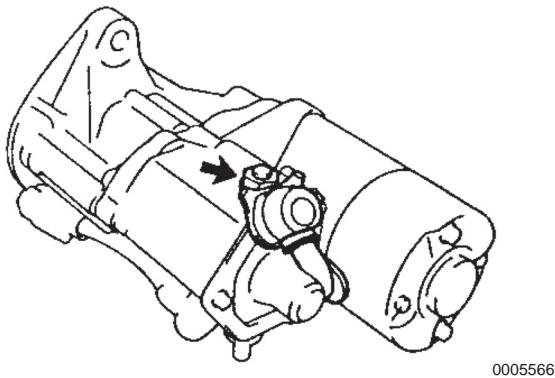

Figure 10-2
1. Remove the terminal nut and disconnect the lead wire from the magnetic switch terminal (Figure 10-2).